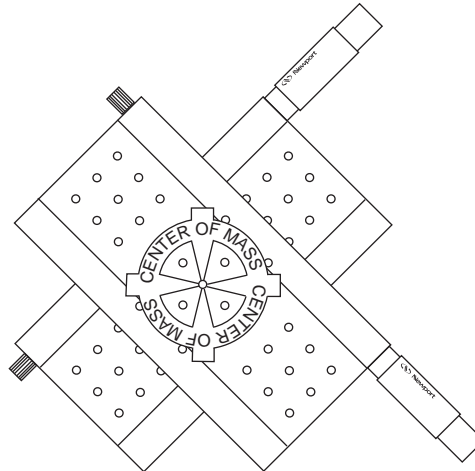

Figure 16: Placing loads.
- Be sure the center of *mass* of the load corresponds to the center of the stage carriage (*see* Figure 16).